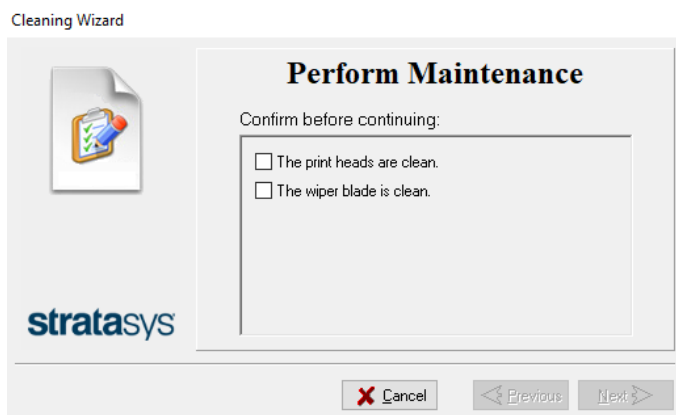

Figure 4-41 Wizard screen during cleaning tasks
14. Select the confirmation check boxes in the wizard screen (see Figure 4-41) and click **Next**.